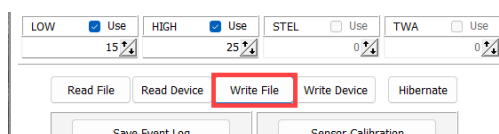

Figure 3-4: IR Connect - Write File
2. Click 'WRITE FILE' to save a particular configuration. See Figure 3-4.